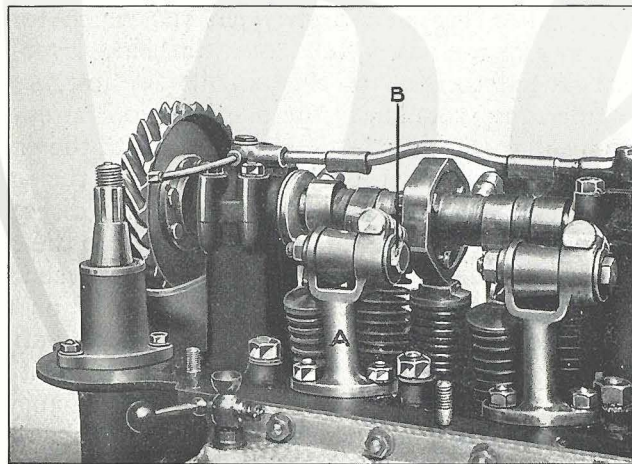
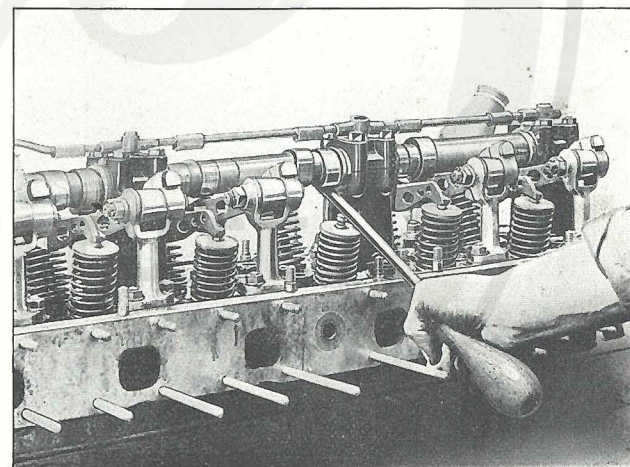
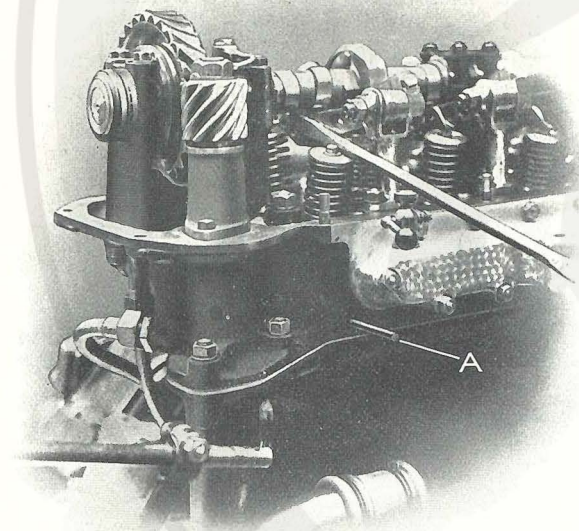

Fig. 24.
Fig. 29.
Fig. 40. Showing Valve Rod in Use.
The tappet levers are mounted on a pedestal (A-Fig. 24) having an eccentric pin (B) which forms the bearing of the levers, the eccentric being arranged so that partial rotation of the pin lifts or lowers the lever fulcrum; rotation in the one direction raises the fulcrum and (regarding the end in contact with the valve as invariable) reduces the clearance between the cam roller and the cam; rotation in the opposite direction correspondingly increases the clearance between the cam roller and the cam. The correct clearance between the valve stem and tappet levers is .005" to .006" on the exhaust valves and .004" to .005" on the feed valves. A slip gauge is provided in the car's tool equipment for measuring this clearance, but in lieu of the slip gauge, a piece of 38 S.W.G. sheet metal is suitable for checking the exhaust valves and a piece of 40 or 41 S.W.G. metal for the feed valves.
Remove the tappet levers, detaching same from the cylinder head, together with their pedestals (A-Fig. 24). Press the valve springs down with a screwdriver (Fig. 29); remove the split collars from the valve stems and release the spring slowly. Withdraw the washer and spring. The valves can now be removed.
The function of the Valve Rod is to prevent the valve dropping down into the cylinder-head when the valve spring is being removed. The valve rod A Fig. 40 is inserted in the sparking plug hole until it is felt to enter a hole in the exhaust side of the cylinder-head, it thus supports both the inlet and exhaust valves, the springs from which can now be easily removed. The method used for removing is described in Fig. 29 page 61.